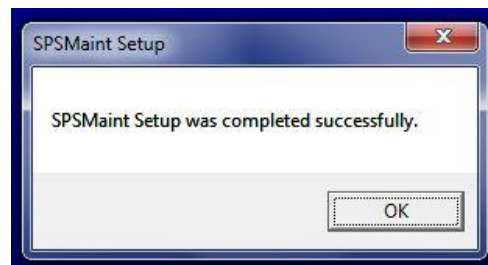

Figure C-9: Sippican SPS Install Completed
16. Click **Continue**. The Sippican *SPSMaint Setup was completed successfully* screen will appear (Figure C-9).